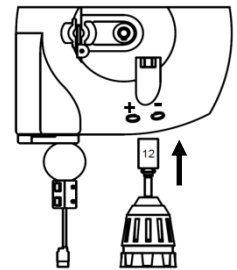

Fig. 04
- To increase tension, engage a socket on the main gear shaft and turn in “+” direction [See - Fig. 04].
- To decrease tension, engage a socket on the main gear shaft and turn in “-” direction [See - Fig. 04].